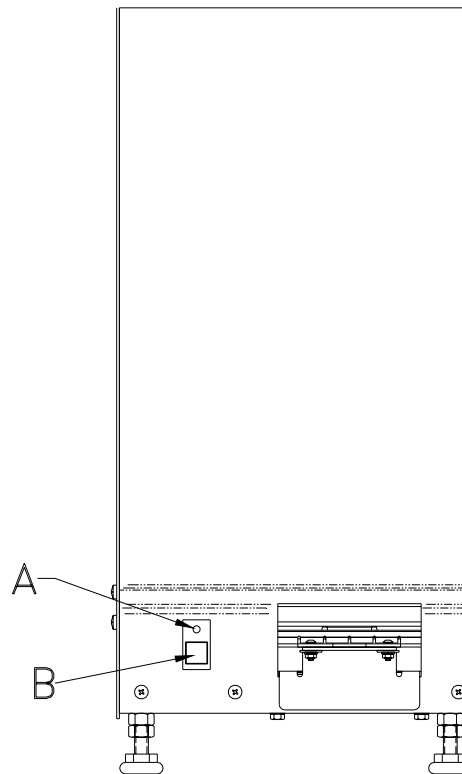

Figure 3-3: Status LED and Label Feed Button
If an error is detected, the status indicator LED on the lower front cover (A in Figure 3-3) changes to red providing the operator an error indication. In addition to the red LED indicator, a message code is shown on the Display PCB (if equipped) to help pinpoint the exact cause of the error. Refer to the following Error Codes. Press the label feed button (B in Figure 3-3) to clear the error. If data is received during an error condition, no printing occurs.
5. When the Model 317 operator display shows 0, release the label feed button. The operator display will then show **FLH** and the Status LED (B in Figure 3-3) color will change to orange.